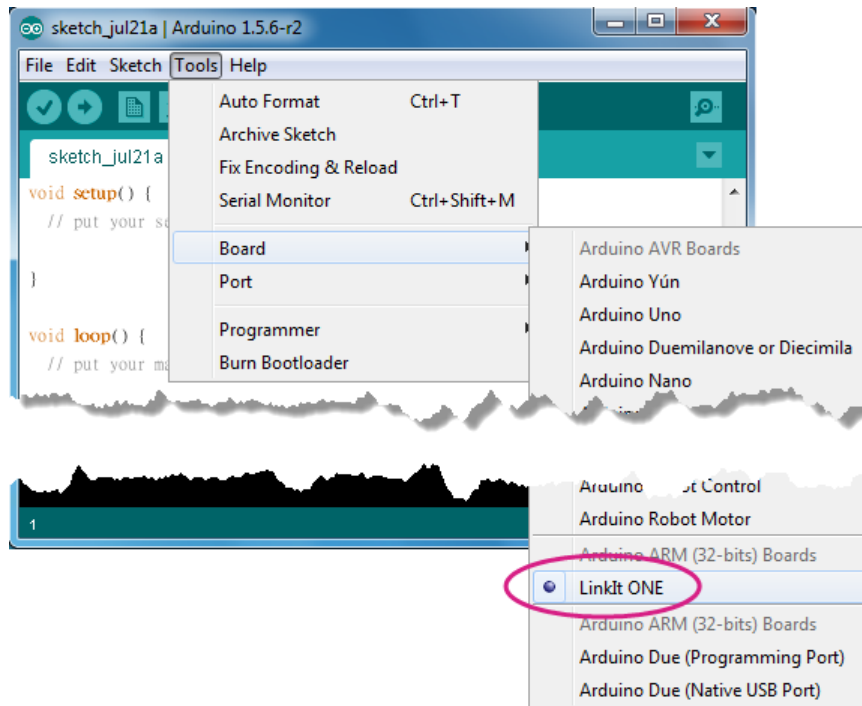

Figure 7 The menu option for configuring the LinkIt ONE board
- 2 In Arduino IDE, on the **Tools** menu point to **Board** and click **LinkIt ONE**, as shown in Figure 7, to configure the board as the target.